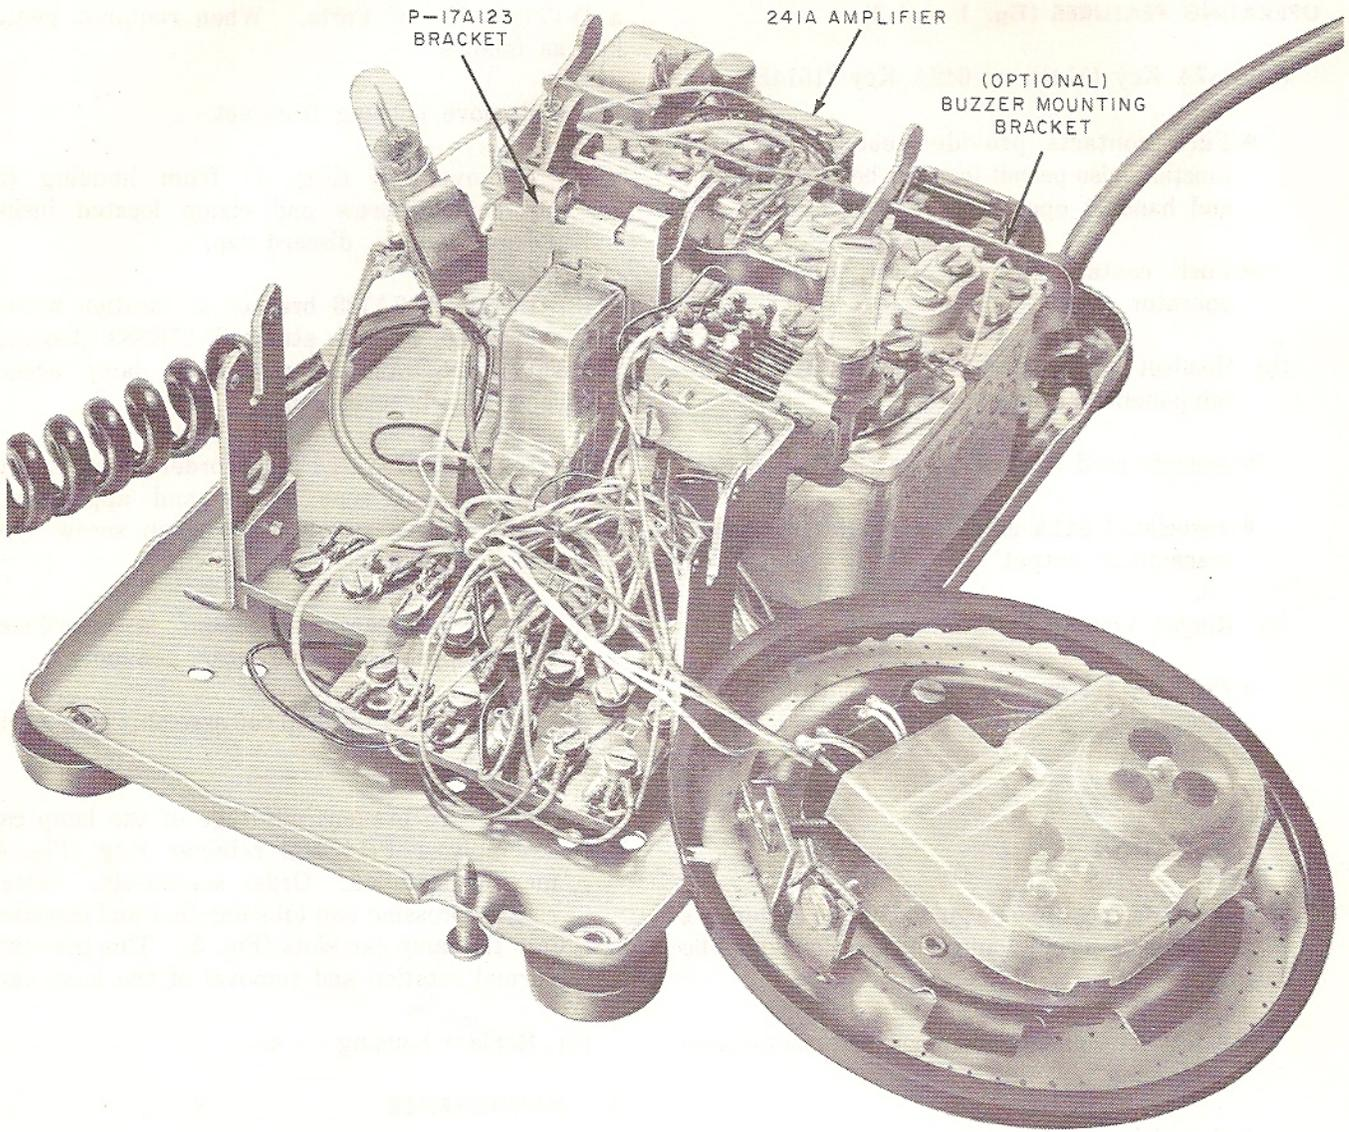

Fig. 3—514B Telephone Set, Interior View
- (3) Install P-17A123 bracket at location shown in (Fig. 3) and attach P-27E389 (bayonet base) or P-13A264 (screw base) lamp socket assembly to bracket arm.
- (4) Install KS-19527L1 lamp (ordered separately) in bayonet type socket and appropriate lamp for power supply used when screw type socket is installed.
- (5) Make necessary connections in accordance with appropriate connection section.
- (6) Install P-11E100 lamp cap assembly on housing of set.